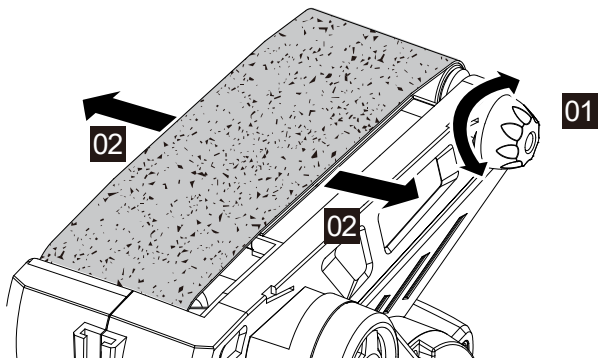

Figure 2
2. BELT CENTERING CONTROL (SEE FIG. 2)